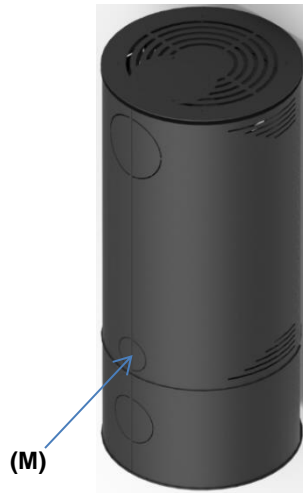

Figure 5 – Rear view of the equipment; (M) section to remove for external air inlet
If it is at the rear of the equipment at the bottom of the side covers, as shown in Figure 5, the microdots of the side covers must be broken (M).